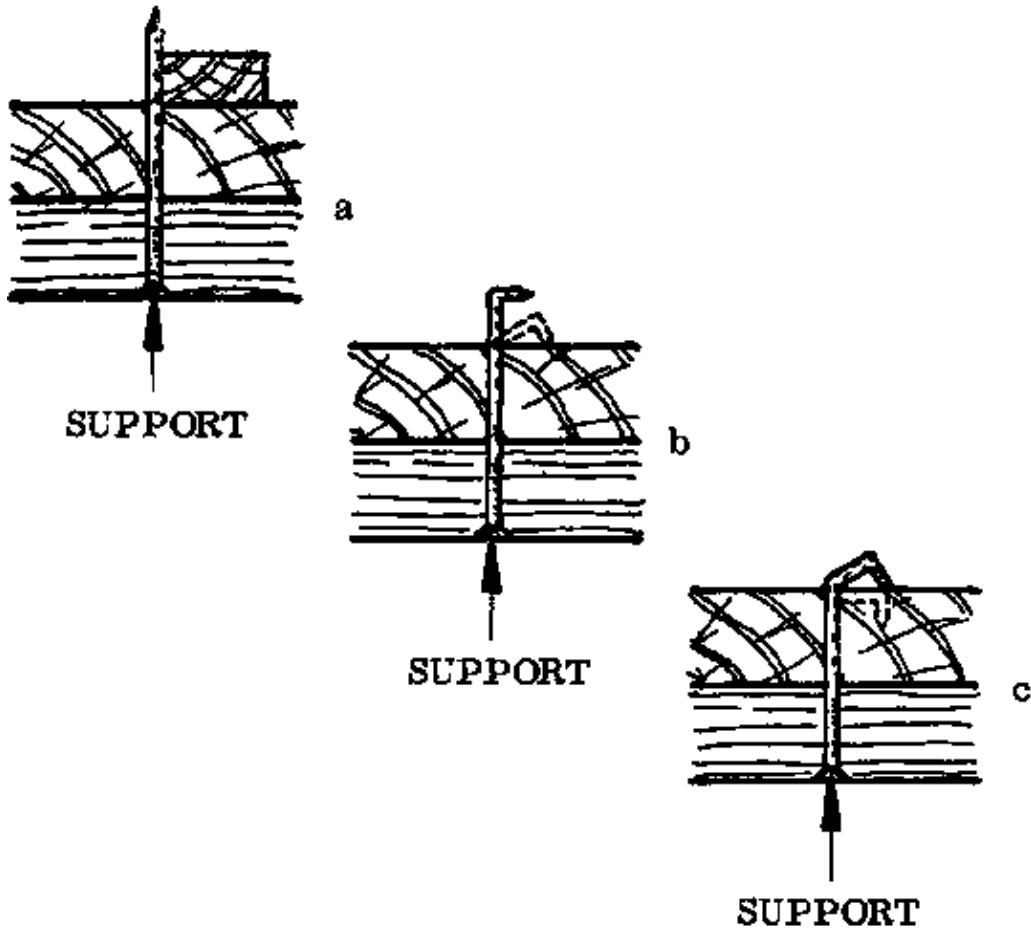

Fig. 5
- Bend the point at a right angle first, and then knock it back into the wood (Fig. 5; a, b, & c). This is done where the nail projects more than 1 cm.